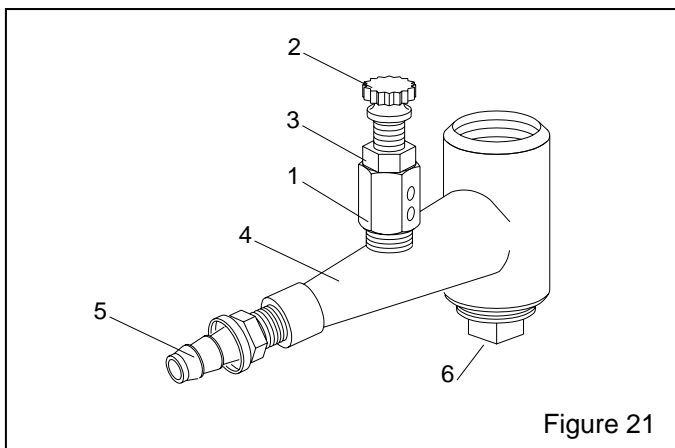

Figure 21
9.5 Metering valve assembly, Figure 21